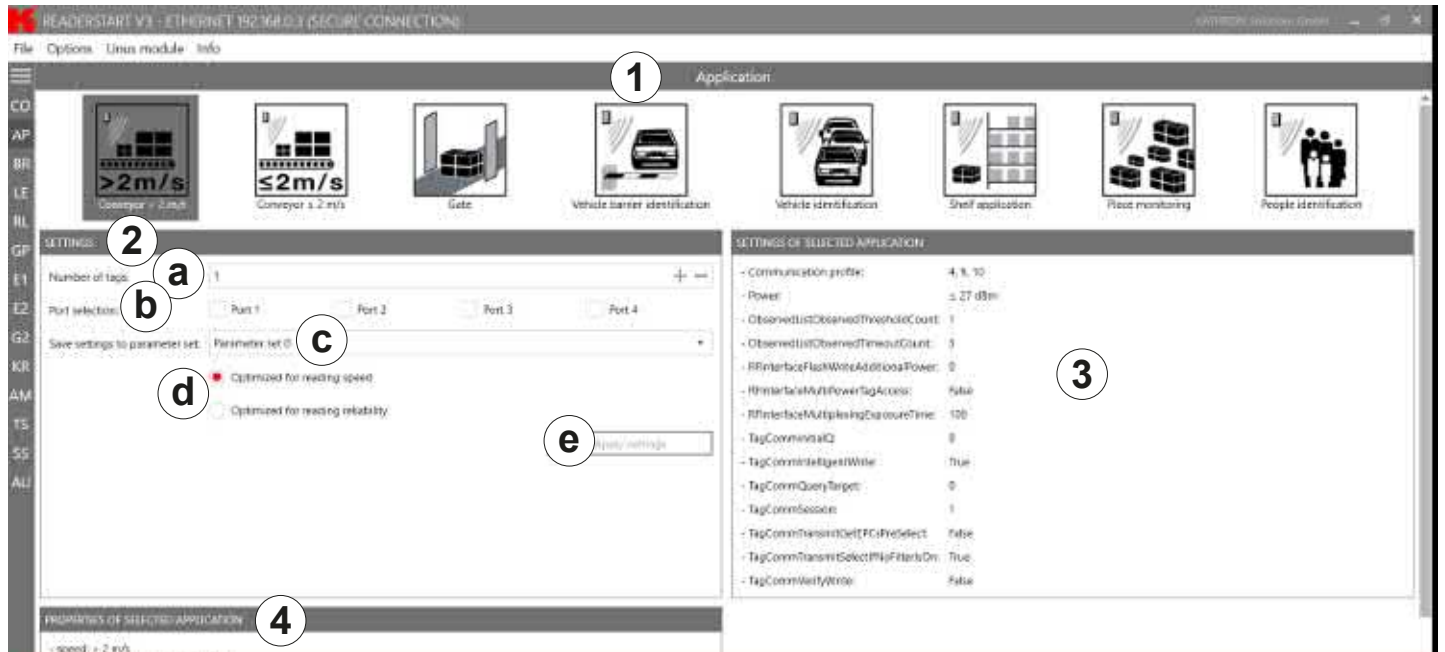

Fig. 40: Application Tab
<p>② Settings</p>	<p>changes setting of the selected application</p> <hr/> <p>Ⓐ number of the expected tags</p> <hr/> <p>selects the antenna to be used</p> <p>Ⓑ ▶ Check Ports 1-4 to select the antenna port. It is possible to select one, several or all ports.</p> <hr/> <p>Ⓒ selects the parameter set in which the configuration is saved</p> <hr/> <p>sets the values for max. reading speed or max. reading reliability</p> <p>▶ Click Optimised for reading speed or Optimised for reading reliability. ⇒ The values in Settings of selected application (③ in Fig. 40) change.</p> <p>When the max. read frequency is set (Optimised for reading speed is activated), the number of readings is maximised. In this case, the same tag can be read several times, because all tags will be reset in the inventory so that they will respond again. Because of reading the same tag multiple times, in a scenario of moving tags it could happen that not all the tags crossing the antenna field are read. The frequency of detection of the same tag is increased. In some cases, the time allowed for detecting the tags may be insufficient, so that some transponders are not detected.</p> <p>When the max. read reliability is set (Optimised for reading reliability is activated), tags that have already been read are not read again in the next inventory, provided they are still being supplied with power. This means that only the tags which have not yet been registered are detected. This way, the probability that all tags are read is increased.</p> <hr/> <p>saves the settings that have been made as the settings for the selected application in the selected parameter set. The programme resets the settings to the factory settings first, thus overwriting the previous configuration.</p> <p>If the settings have been reset, the Apply settings button briefly glows green and a success message is displayed in the Status field of the programme interface.</p> <p>Ⓔ If case of a fault, the Apply settings button briefly glows orange to indicate a warning or red to indicate an error. If the fault has been caused by a missing entry, the field lacking the entry also glows red. A warning/error description is displayed in the Status field.</p> <p>After the settings have been loaded, it is possible to go to the Basic reading tab and to start the read process.</p>